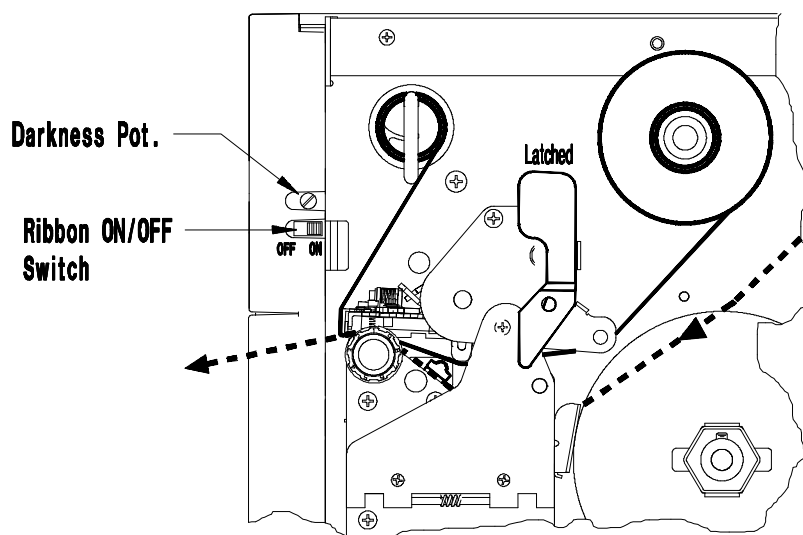

Figure 2-12 Selecting Ribbon On (Thermal Transfer)
11. Locate the Ribbon ON/OFF switch, (*see Figure 2-12*), and slide the switch to the right to select Thermal Transfer (ribbon on). This Switch is not available with the LCD/Keypad Front Panel Option, (*see Section 3.2*).